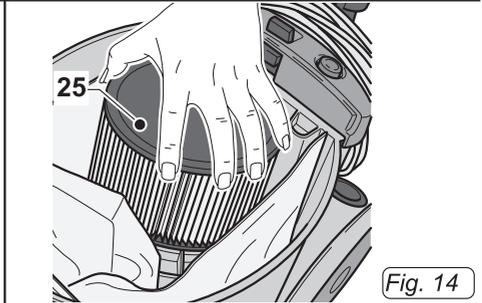
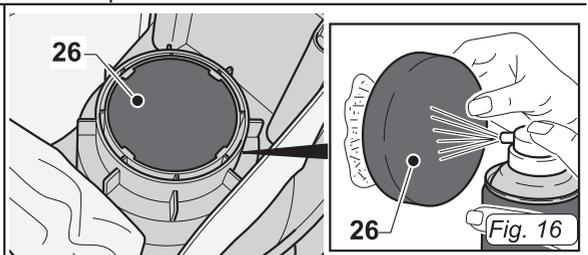

Fig. 14
Fig. 16
- The filter cartridge (25 Fig. 14) is pressed into a special support. In order to remove it, it must be lifted up.
- Remove the filter cartridge (25 Fig. 14) then remove the filter (26 Fig. 16) and clean it with a blast of air.